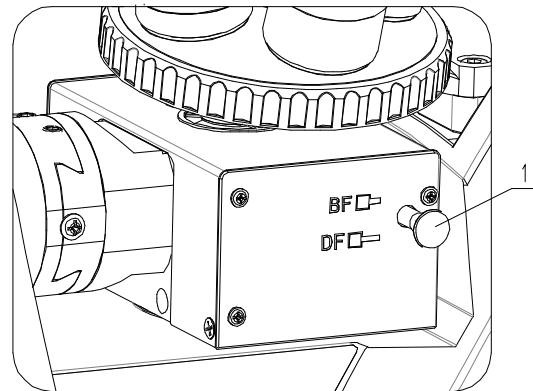

Figure-16 Bright & Dark Field Conversion Lever
- b) Adjust bright &dark field transform handle at **BF** (**Figure-16**) .
- c) Pull the bright &dark field transform handle ① out at DF.